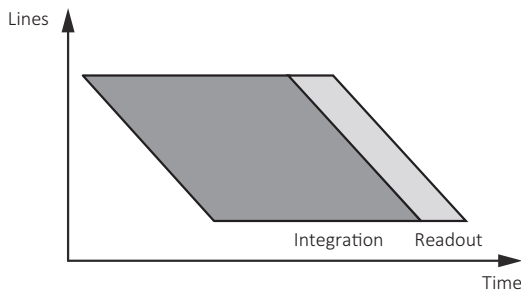

Figure 10: Rolling shutter effect with Mako U-503B
**The Mako U-503B camera has a rolling shutter.** Figure 10 shows the rolling shutter effect: Sensor lines (left) are integrated sequentially, the image (right) of a rotating fan appears distorted.